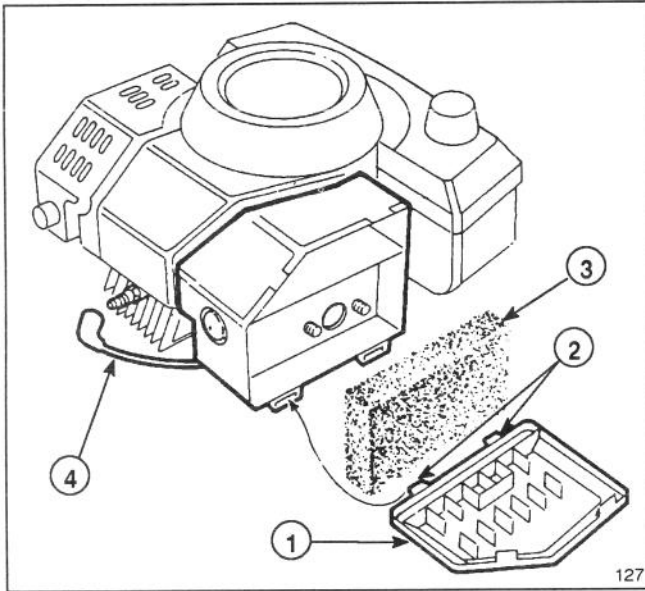

Figure 15
1. Stop engine and pull wire off spark plug (Fig. 15).
2. Lift tabs at top of air cleaner cover and pivot cover down (Fig. 15). Clean cover thoroughly.
3. If top of foam element is dirty, remove it from air cleaner body (Fig. 15). Clean thoroughly.